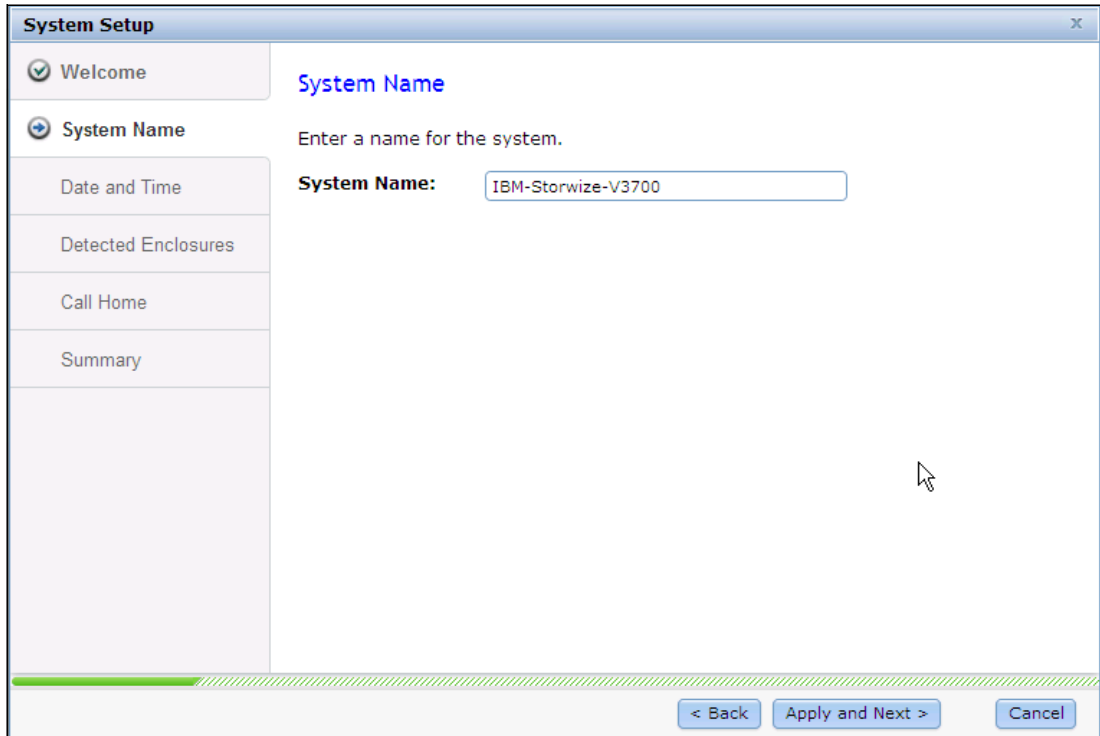

Figure 2-15 Setup Wizard - Insert system name
2. Set up the system name shown in Figure 2-15